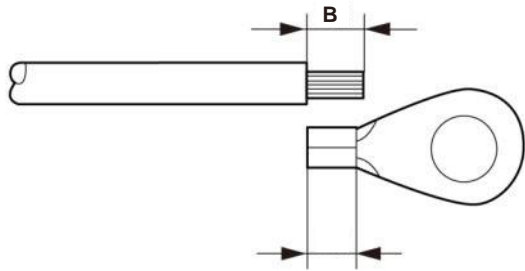

Figure 5.7 Suitable length
3. Strip the ground cable insulation to a suitable length(see Figure 5.7).